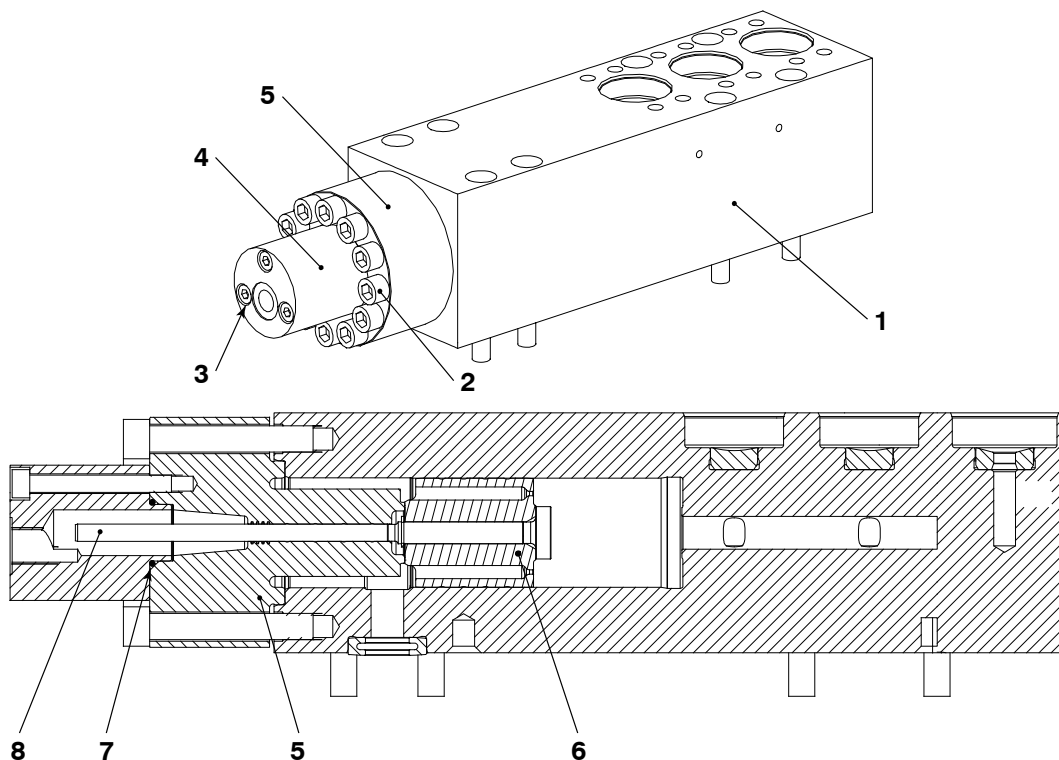

Fig. 1: Flow Limiting Valve
- 3) Remove the Allen screws (3, Fig. 1) and the cover (4) from the flange (5).
- 4) Remove and discard the O- ring (7).
- 5) Use Scotchbrite and WD40 or similar to clean the part of the piston rod (8) that you have access to.